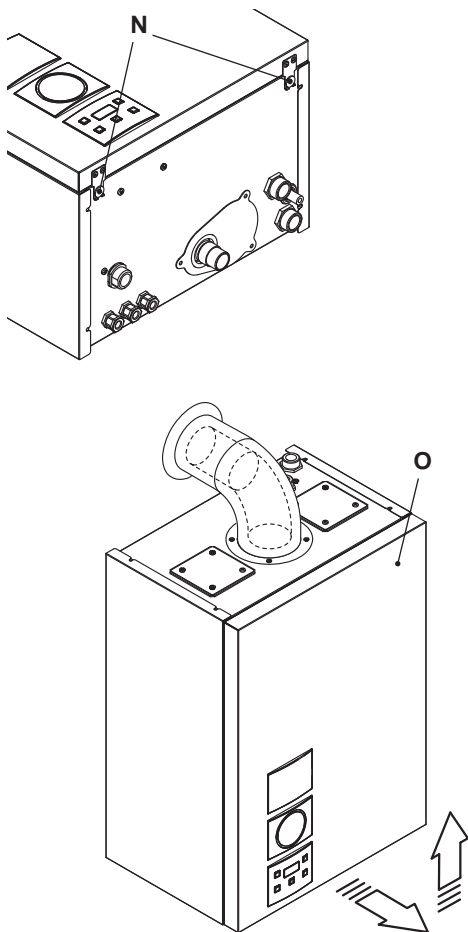

Fig. 6.14
- Unscrew screws " N" and remove the front panel " O" by pulling it and pushing it towards the top so that it is freed from the top housing Fig. 6.14.